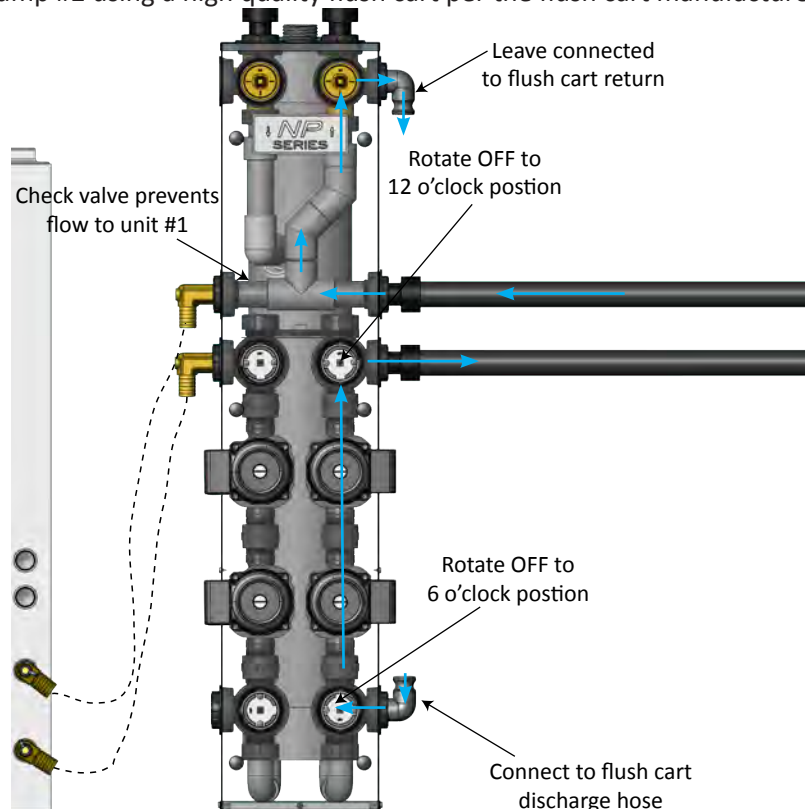

Figure 12: Flushing Heat Pump #2 (blue arrows show flushing path)
2. Rotate OFF on the lower right valve to the 6 o'clock position to isolate the tank. Rotate OFF on the middle right valve to the 12 o'clock position to open flow to heat pump #2. (Figure 12).